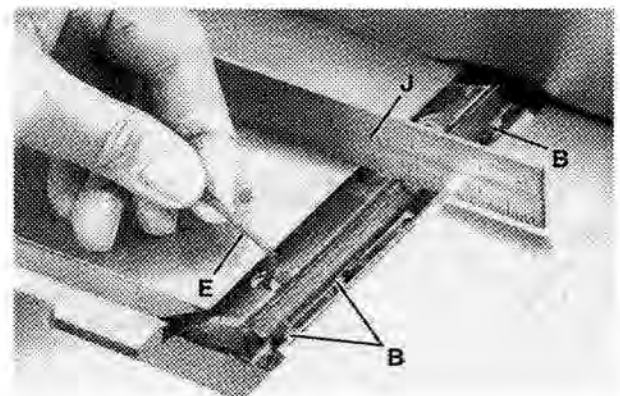

FIGURE 44
- Lower the infeed table and place a straight edge (J) Fig. 44, on the out-feed table extending over the cutterhead as shown.
- Rotate the cutterhead by hand until the knife is at its highest point at each end of the cutterhead. To raise the knife, use wrench (E) Fig. 44, and turn raising screw clockwise until the knife just touches the straight edge (J) on each end and center of the cutterhead when the knife is at its highest point. When you are certain the knife is adjusted properly, tighten the five locking screws (B) Fig. 44, three of which are shown, by turning them counterclockwise.